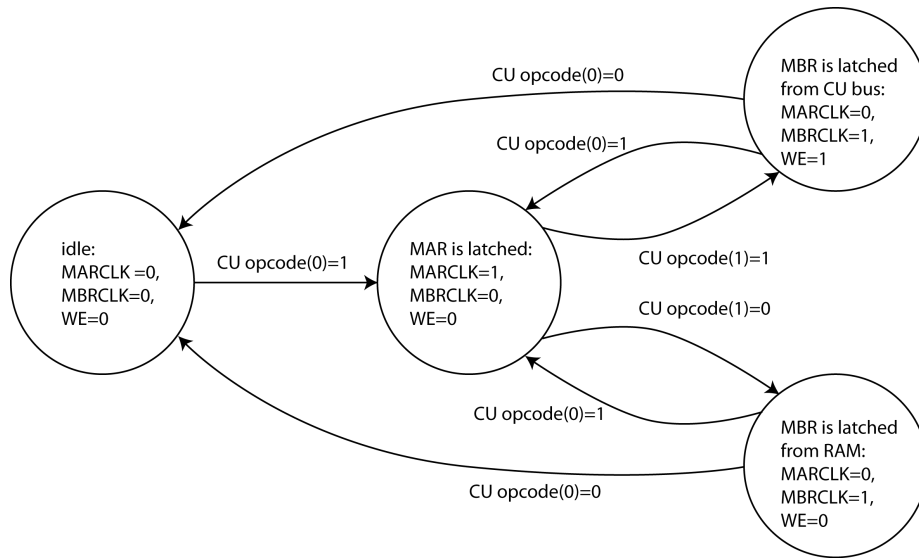

Figure 1: The finite state machine that defined the memory control unit.
The FSM has four states and could be implemented using only a 2-bit state variable. However, it's conceptually easier to use the necessary control signals to control the RAM as state variables, such that no decoding will be necessary. Figure 1 shows the FSM that is one possible implementation for the memory control unit. The main CU will provide the control signal CUopcode (which will be held constant during two consecutive rising edges of the clock) and make
- (a) The inputs to the D-flipflops that hold the state variables 'MARCLK', 'MBRCLK', and 'WE'. Hint: The FSM in figure 1. Note, that you cannot only use the transition conditions on the arrows but you'll have to take into account also the starting state of those arrows. For example the input to a D-flipflop holding a state variable needs to be something like: this variable (that is high in state B) goes high if the state is A AND the transition condition  $A \rightarrow B$  is met.